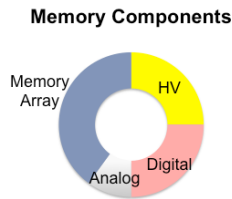

Figure 4. Embedded Flash Components
As an example, figure 4 below highlights the various circuit components of an embedded SuperFlash® memory block. The primary components of a SuperFlash memory block are memory array, high-voltage (HV) blocks such as charge pump and switches, analog blocks such as sense amp and reference circuitry, and digital control blocks. Generally, the HV blocks don't scale with technology nodes because the voltage required to erase and program (erase and
program together constitute a write operation) doesn't scale down, therefore the HV design rules don't scale either. Most of the area scaling (Figure 4) is achieved by scaling the memory array and the digital blocks of the flash memory macro.